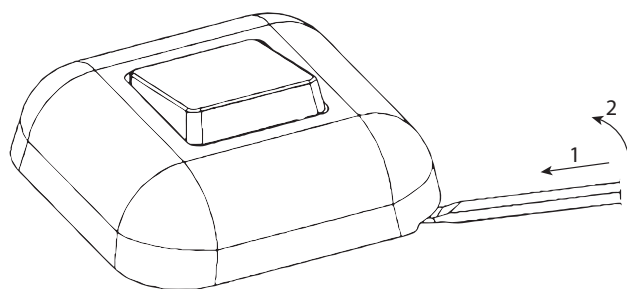

Figure 7.1: Removal of the bezel
2. Insert a small flat head screwdriver as shown in the Figure 7.1 and gently pry it up until it clears the mounting tab then remove the switch from its housing.